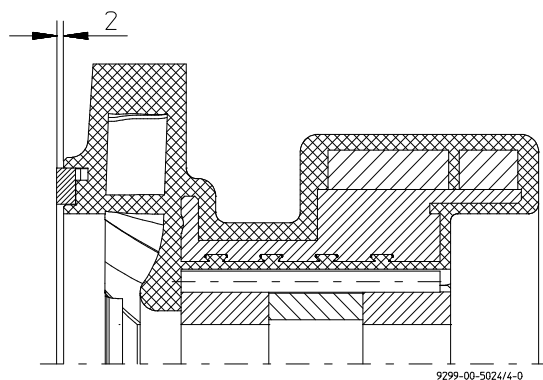

Fig. 7
- Check whether the thrust ring protrudes about 2 mm out of the impeller assembly. See **Fig. 7**.